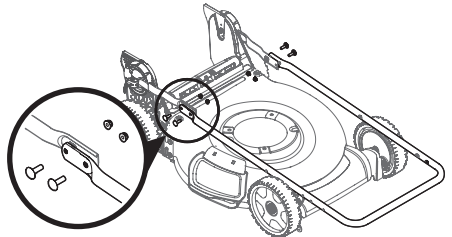

Figure 12
4. Using the four carriage bolts and nuts removed in STEP 2, secure the upper handle to the lower handle. Tighten hardware securely to secure the handle in place (Figure 12).